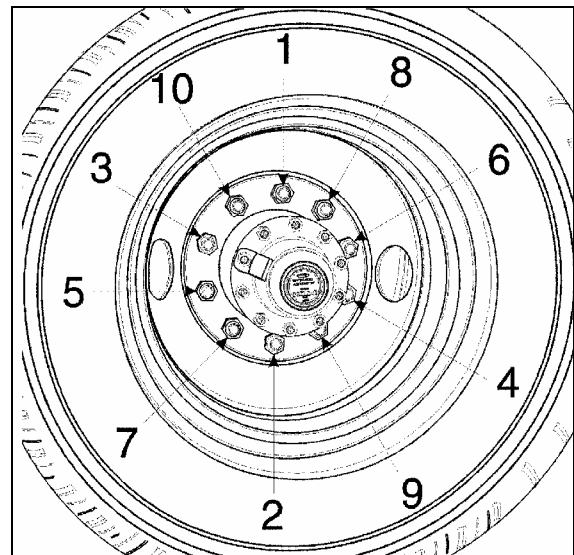

FIGURE 2: TIGHTENING SEQUENCE 13018
It is also important that wheel stud nuts be tightened alternately on opposite sides of the wheel. Refer to Figure 2 for the suggested tightening sequence.
Tighten stud nuts progressively as shown in Figure 2. The final tightening should be done with a torque wrench. Tighten stud nuts to 450 - 500 lbf·ft (610 - 680 N·m) for aluminum as well as steel wheels.
2. Screw in the hex stud nuts (refer to Figure 2 for sequence) so that wheel will position itself concentrically with hub. This is important, otherwise wheel may be eccentric with hub and will not run straight. In this initial step, slightly tighten the nuts to correctly position the wheel;
3. Tighten stud nuts progressively as shown in Figure 2. The final tightening should be done with a torque wrench. Tighten stud nuts to 450 - 500 lbf-ft (610 - 680 N-m) for aluminum as well as steel wheel.